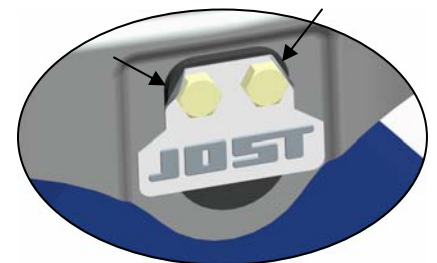

FIGURE 4
b) Install the bracket pins, tab washers and mounting bolts. Securely tighten the mounting bolts, then bend the locking tabs over each bolt (see figure 4).